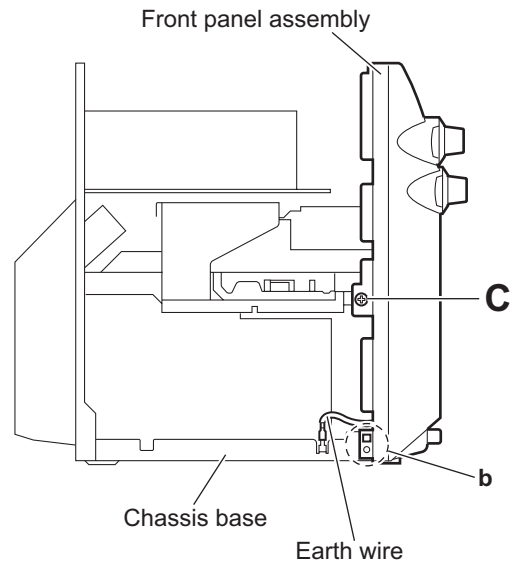

Fig.6
- (4) Disconnect the earth wire from the chassis base. (See Fig.6.)